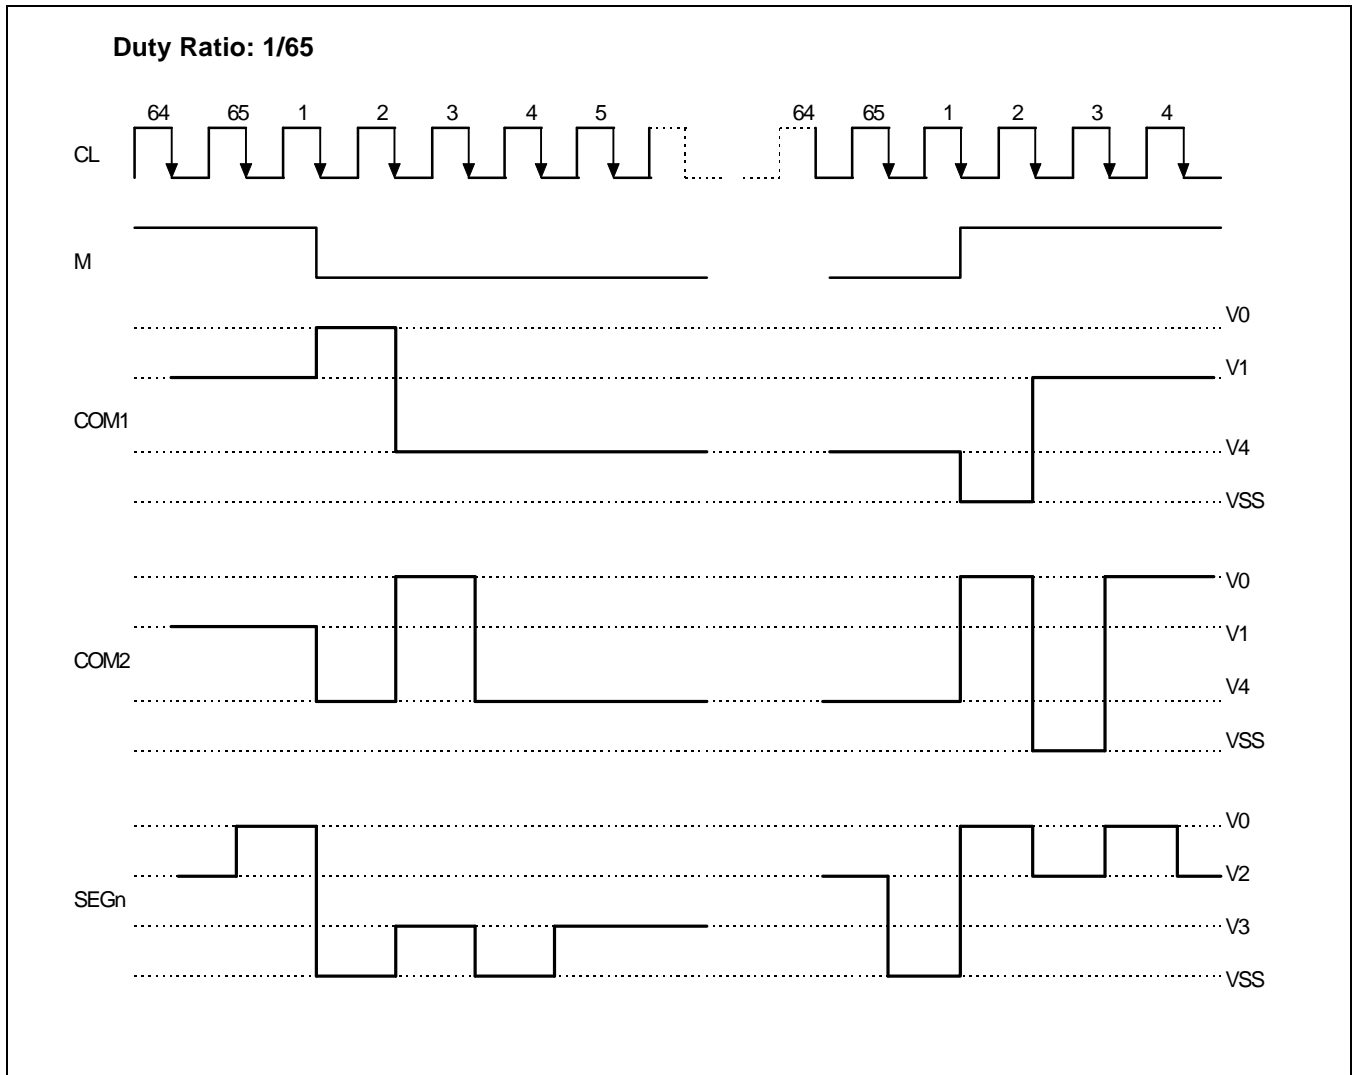

Figure 7. 2-Frame AC Driving Waveform
The display clock generates an LCD AC signal (M) which enables the LCD driver to make an AC drive waveform, and also generates an internal common timing signal and start signal to the common driver. Two-frame AC driver waveforms and internal timing signal are shown in Figure 7. When this KS0713 is used for a multi-chip, the slave chip must receive the M, CL, DISP signals from the master. Table 8 shows the M, CL, and DISP status.